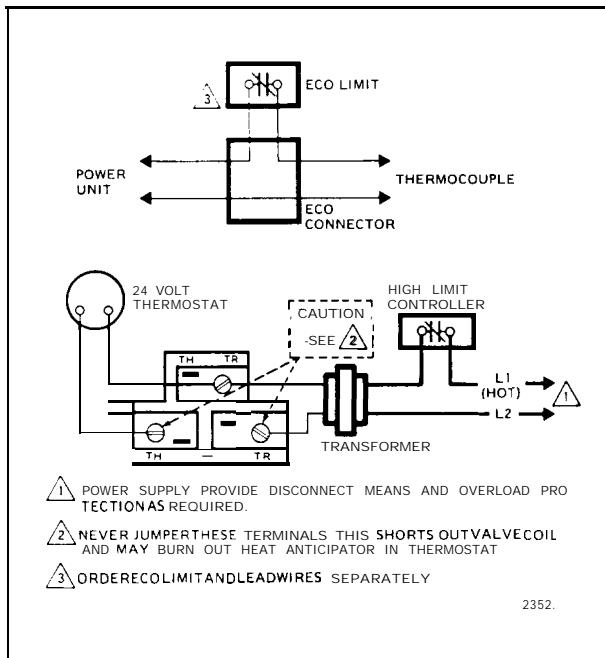

FIG. 9—TYPICAL WIRING HOOKUP FOR 24V SYSTEMS.
2. Connect control circuit to operator terminals. Refer to Fig. 9 for typical 24V wiring diagram.